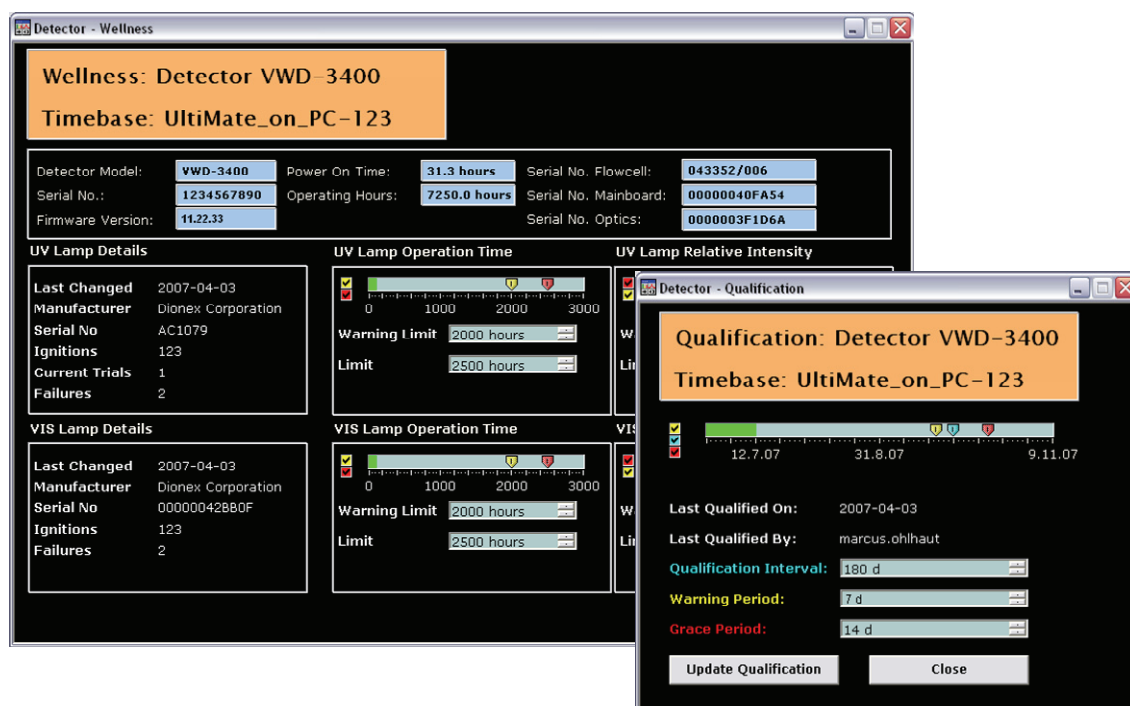

Fig. 7: Sub-Panels provide access to advanced properties of the modules, such as Wellness and Qualification details
6. Advanced properties of the modules, such as Qualification data, can be reached via Sub-Panels, Fig. 6b and Fig. 7.